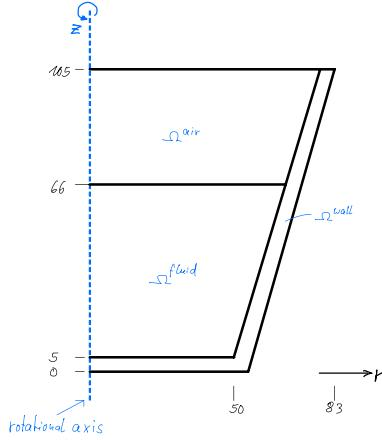

Figure 2: Ω^{rot} : rotationally symmetric
We consider a 2D cut of the mug as in Fig. 2 without rotation and without symmetry axis. The PDE is similar to (1) in x - and z -coordinates in Ω^{2d} .